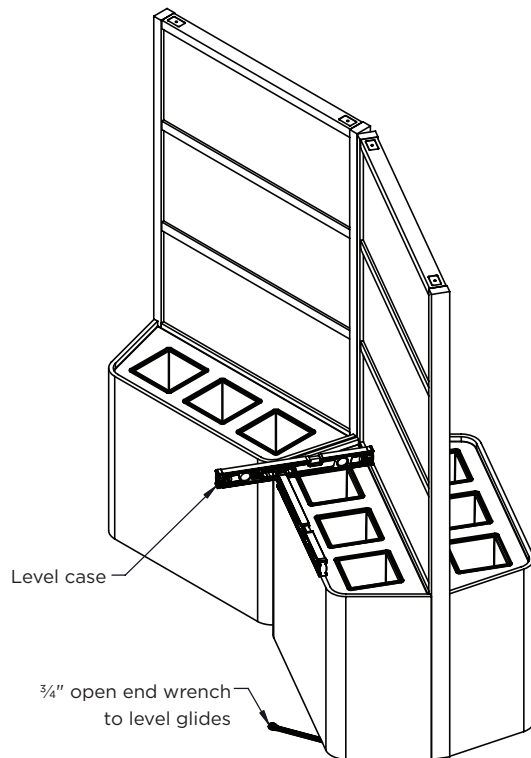

Figure 5D
**Note:** Reference **Figure 5D** for 90"h to 90"h planters and **Figure 5E** for 90"h to 72"h planters